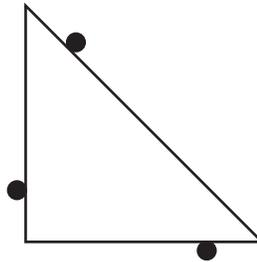

Figure 2: Three point fingers contacting a triangle.
**3.** (a) For the stationary contacts in Figure 2, draw the rotation centers that correspond to feasible motion of the planar object and label them with the appropriate contact modes. Put the contact label for the uppermost finger first,